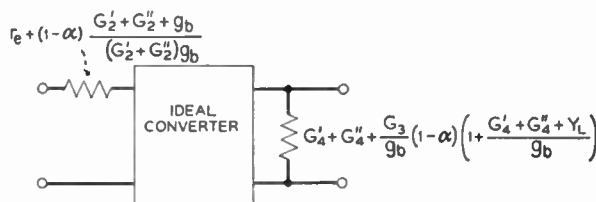
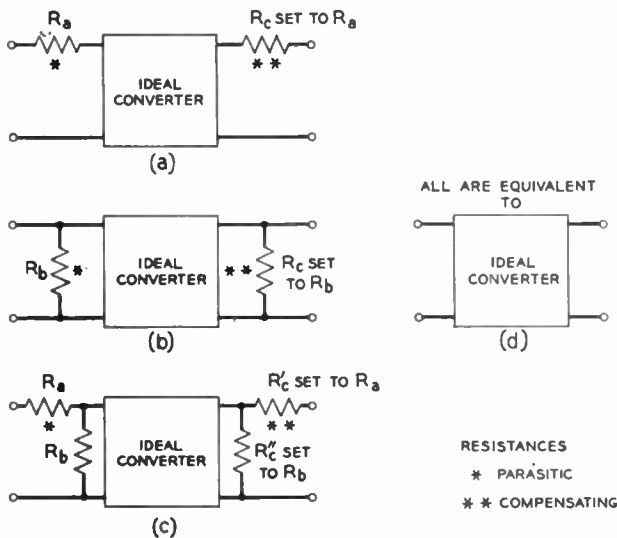
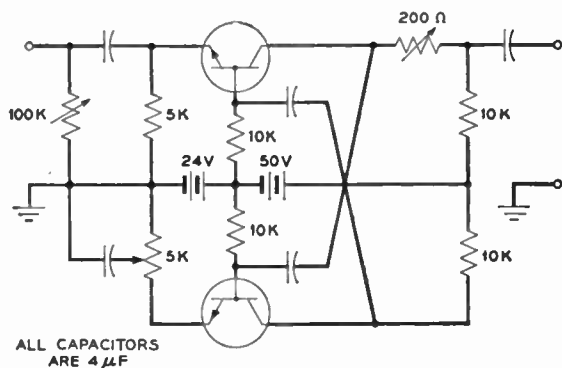
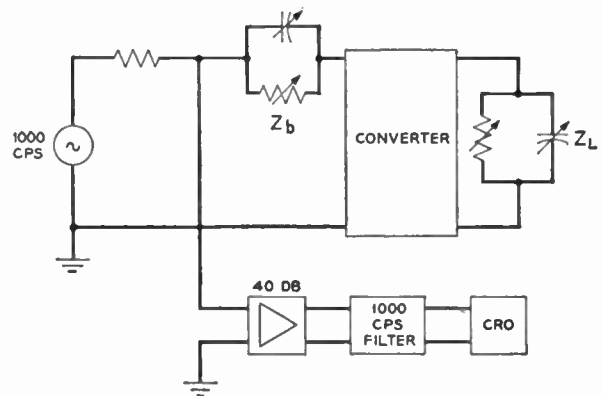

Fig. 9—Representation of converter of Fig. 8.
Fig. 10—Merrill's technique for compensating a converter for parasitic impedances.
Fig. 11—Unbalanced converter with compensating variable resistors.
Fig. 12—Circuit for measurement of conversion factor.
G_3 . If the multiplying factor is -1 , one still has as imperfections two parasitic impedances, one in parallel with Y_L and a second in series with the converter at its input, as illustrated in Fig. 9. Merrill⁸ has pointed out
that one can cancel the effect of parasitic elements on the performance of a converter as illustrated in Fig. 10. With the parasitics shown in Fig. 9, a perfect compensation is impossible, one of the inherent parasitics being in parallel and dependent upon Y_L , the other being in series. However, a satisfactory compensation can be effected with the arrangement shown in Fig. 11. By proper
A more significant characteristic than the value of the conversion ratio is the constancy of the ratio with time, temperature and other environmental conditions. The converter shown in Fig. 11 has been tested with the circuit shown in Fig. 12, which is a balancing arrangement whereby one can accurately measure the input impedance of the terminated converter. For a conversion of
-1 to 1 a balance is obtained when Z_b equals Z_L . Typical converters of the type shown in Fig. 11 exhibit changes with time for the same supply voltage of about 1 per cent, for impedance levels in the hundreds or thousands of ohms.